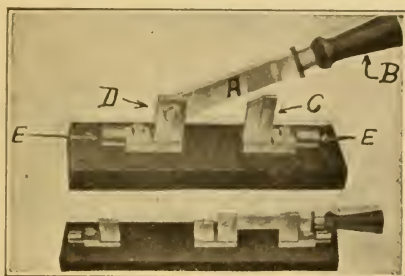

FIGURE 19
(50) In Fig. 19 we see, at the top, what is known as a single-pole, single-throw knife-switch. It is a single-throw for the reason that it can make but one
(53) In a projection room switches must be located to allow for quick and easy manipulation.
(54) The tendency of knife switches such as are shown in Figures 19 and 20 to fall shut through the action of gravity must be avoided. The handle of double pole switches should swing sidewise. The handle of single throw switches should point upward.
(55) The knife blade switches should be examined at least once each week if used often. (56) Contact D, Fig. 19, should be snug to insure good electrical contact and to hold the blade in any position. Contact C should always be in good condition. Often the clip is split in its center, as is shown in C. Make certain that both portions of such clips make good contact with the blade. Keep insulation base clean to prevent current leakage. All portions of the switch should be snug and tight at all times including the cross bar and handle.